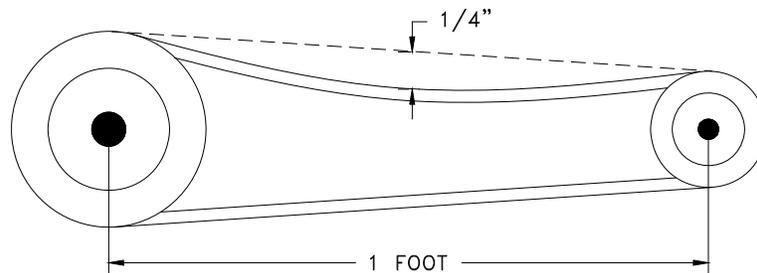

Fig. 7 – Belt & Pulley Tension
2. Slide the motor plate back until proper tension is reached. For proper tension a deflection of approximately 1/4" per foot of center distance should be obtained by firmly pressing the belt. Refer to Fig. 7.